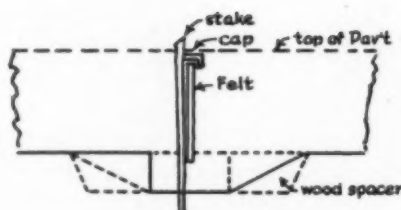

Fig. 5
4. Fig. 5.—Place $\frac{3}{4}$ in. by 10 in. bituminous felt in spacer notch. Set cap and stake.